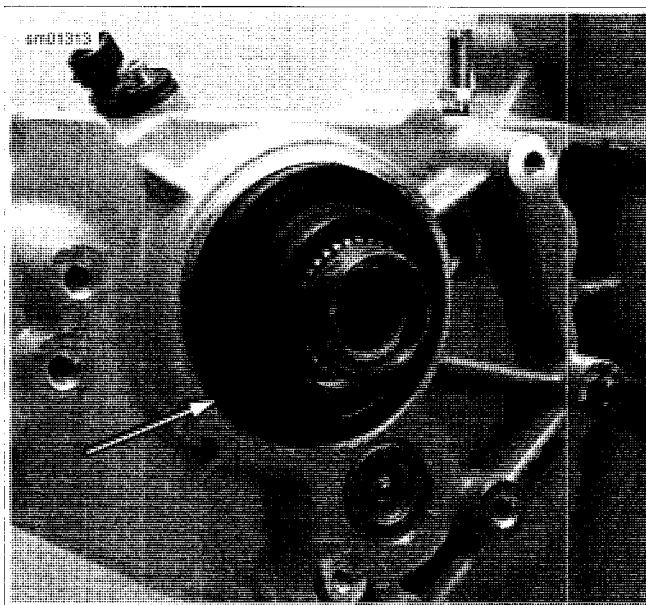

Figure 5-87. Install Main Drive Gear Seal (typical, XL model shown)
5. See Figure 5-87. Place seal over pilot and position seal squarely in end of crankcase bore.